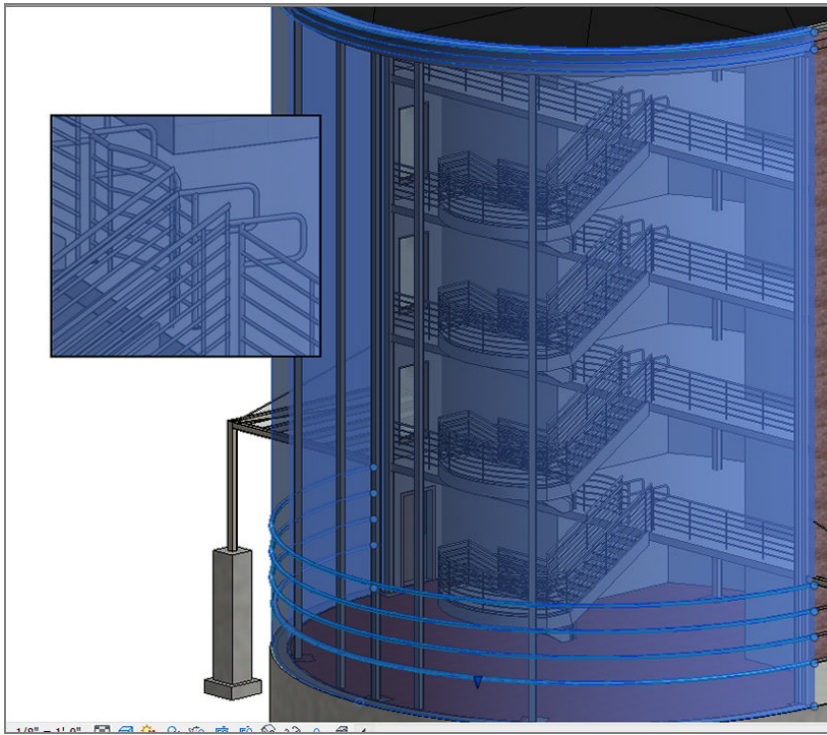

FIGURE 10.32: Check out your awesome stairs!
8. Go to a 3D view, and select the radial brick wall to make it transparent. Check out your stairs, as shown in Figure 10.32.